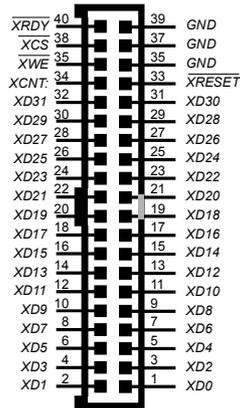

Fig.2-3b. Pinout for HPI port connector of TORNADO-E6202/E6203 (top view).
*XW/R* signal (specified as *XWE* at fig.2-3b) of TMS320C6202/C6203 X-bus of *TORNADO-E6202/C6203* DSP controllers is configured as active low for write cycles.